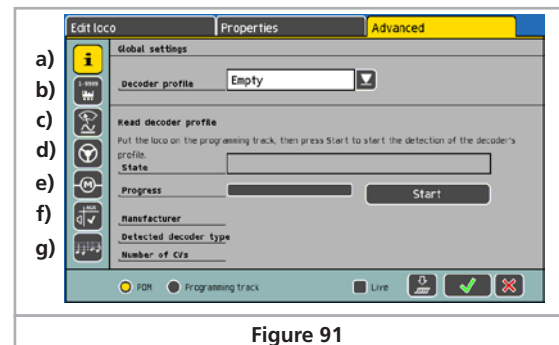

Figure 91
- Change to the third tab called "Extended" and a window as shown in figure 91 opens.